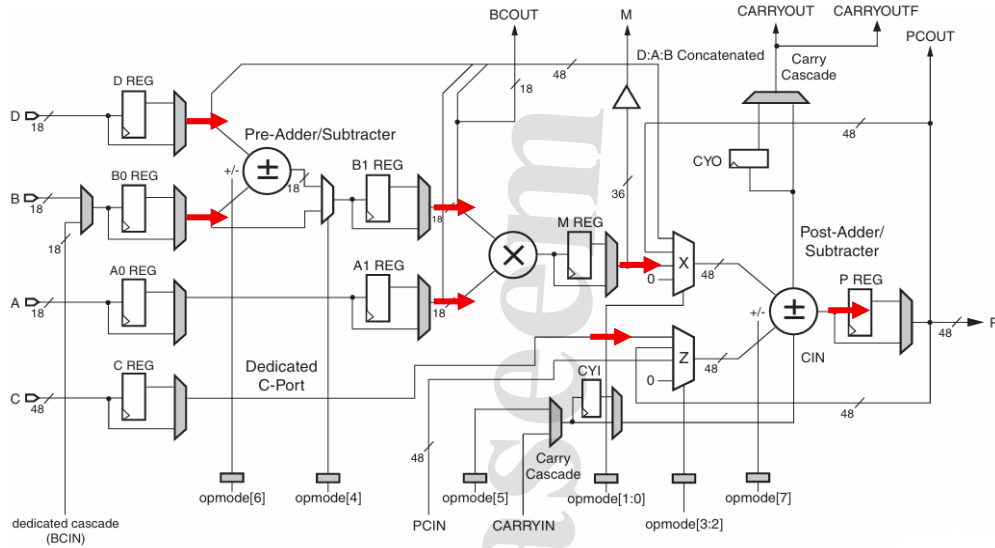

Figure 1: Path 1 Data Flow
- This test path as shown in figure 1 evaluates the pre-subtractor, allowing it to propagate and post-subtractor stages by enabling the multiplier output to route through Mux X and the C-port through Mux Z, corresponding to OPMODE = 8'b11011101.